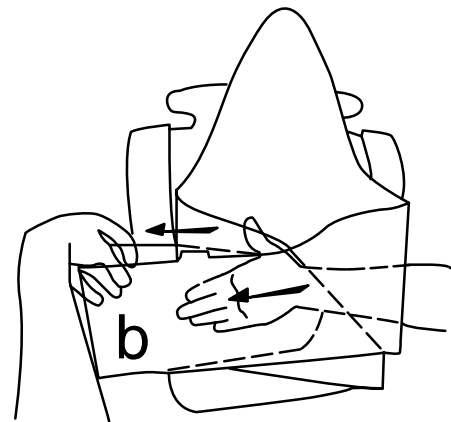

FIG. 11
8. Continue to slide your right hand all the way to the left to separate the remaining Velcro® (Figure 11). With your left hand, pull the flap (b) out from behind the waistbelt and toward you to expose flap c.